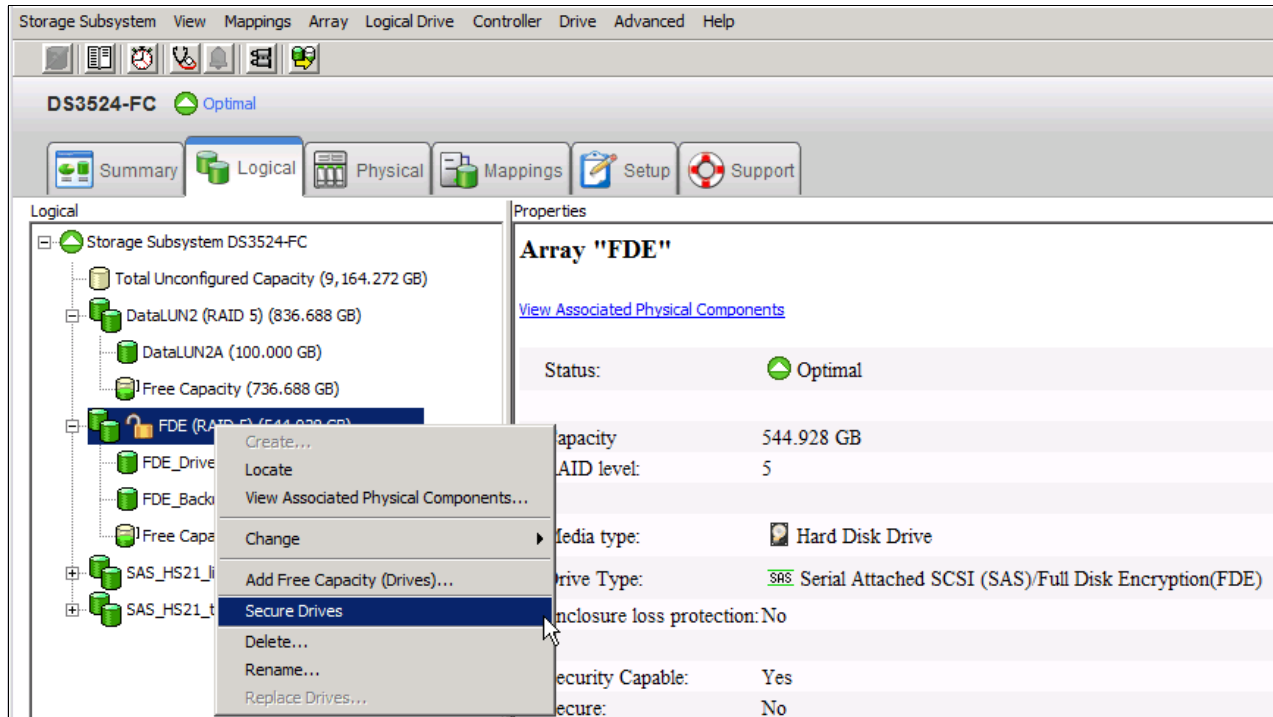

Figure 15-15 Secure all drives in the array
1. Right-click the array and select **Secure Drives** as shown in Figure 15-15 on page 455.